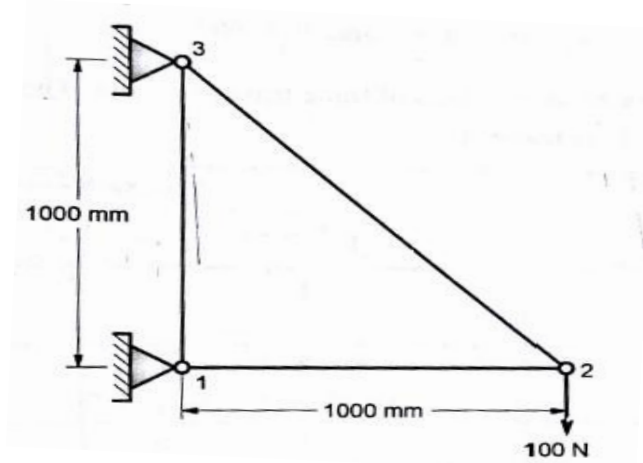

Figure 2
- Q-6 (a) Figure 2 shows a truss consisting of three elements whose EA/L value is 1000 N/mm using FEM determine the deflection at node 2 and reaction force at support. 07